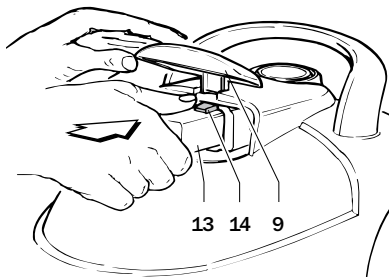

Fig. 3
- 1) Take the quick-fit coupling 13 at the end of the steam hose and check that the safety catch 14 is turned upwards (fig. 3).